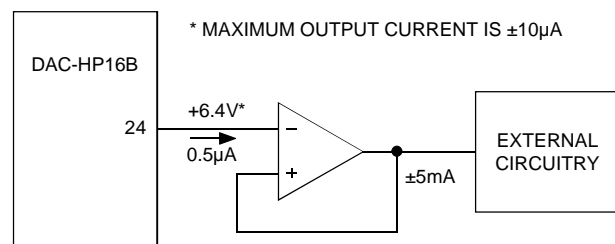

Figure 2. Use of Reference Output
- If the reference output (pin 24) is used, it must be buffered by an operational amplifier in the noninverting mode. See Figure 2. Current drawn from pin 24 should be limited to ±10µA in order that the temperature coefficient of the reference circuit not be affected. This is sufficient current for the bias current requirements of most popular operational amplifier types.